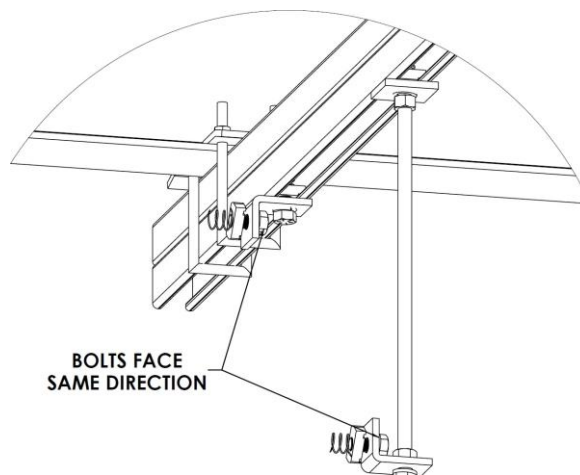

Figure 297: ***Correct Orientation of Bolt Heads***
- Make sure the bolt head is oriented the same as the bolt installed in step 2b, as shown in Figure 297.